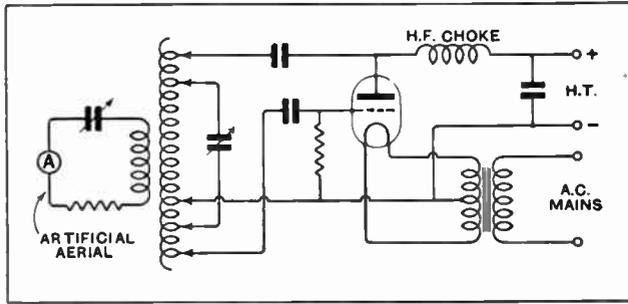

Fig. 1.—Circuit used by the Radio Corporation of America for testing the UX-852 valve on 80 metres.
Fig. 1 indicates the general arrangement of the circuit used for 80-metre transmission tests, the constants being as follows:—
Figs. 1, 2, and 3 will be recognised as the well-known Hartley, Meissner, and Colpitts circuits respectively. By means of the thermo-couple ammeter (A) in the dummy aerial circuit the output power of the valve can be measured.
The most common form of low-frequency amplifier consists of two transformer stages, and in order to fix ideas we shall confine our attention, in the first place, at any rate, to amplifiers of this type; furthermore, we shall assume the first valve to be a detector operated on the "grid condenser and leak" principle. Referring to Figs. 1(a), 1(b), and 1(c), we have theoretical circuit diagrams illustrating three possible ways of cutting out a valve in an amplifier of the above type; all are possible and not infrequently encountered in practice, but there are certain advantages and disadvantages attaching to each which it will be as well to consider. In none of these cases has any switch been shown to turn off the filament of the valve not in use, but this must be imagined to be done for each circuit.
First, in the case of Fig. 1(a), we note that the loud-speaker is connected in circuit with either one of two valves. This has been an extremely popular method of cutting out a stage, more particularly in America, where the plug and jack system was first developed for wireless purposes; but since the advent of special power valves particularly designed for feeding a loud-speaker it has largely lost its usefulness. It must
In some cases it occurs as a matter of course that the last two valves are of the same type. Thus with certain valves designed to be lit from A.C. mains there is only one type of valve provided for all purposes, and as it is of no particular consequence to economise in H.T. and L.T. power, it is a perfectly satisfactory arrangement. In other cases it may be desired for some reason or other to employ valves of the same type in the last two positions, and in this event the circuit of Fig. 1(a) is a highly convenient one for the purpose. But in general, when a valve of particular type is employed to feed the loud-speaker of the set, and it is desired to keep the feed current of the other valves down to a reasonably low limit, there is a fundamental objection to this circuit, inasmuch as the power delivered to the loud-speaker is curtailed when one stage is cut out.
Next, considering Fig. 1(b), we have an arrangement in which the grid of the "power valve" is connected to the secondary winding of either the second or the first intervalve transformer. The advantage of this is that in all cases the intervalve transformers and the loud-speaker are worked in circuit with their appropriate valves, the
FIG. 1.—Alternative methods of switching a two-stage transformer-coupled amplifier:—(a) Loud-speaker connected in the plate circuit either of the first or second L.F. valve; last valve filament switched off when not in use. (b) Grid of last valve connected to secondary of either the first or second transformer; first L.F. valve filament switched off when not in use. (c) Primary of second intervalve transformer connected in plate circuit of either first or second L.F. valve; first L.F. valve filament switched off as in (b).